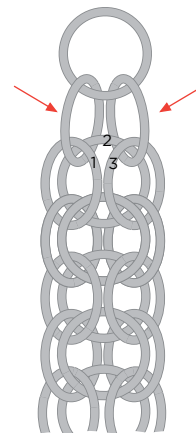

FIG. 8
4. Finish the other end of the chain in the same manner (FIG. 8).